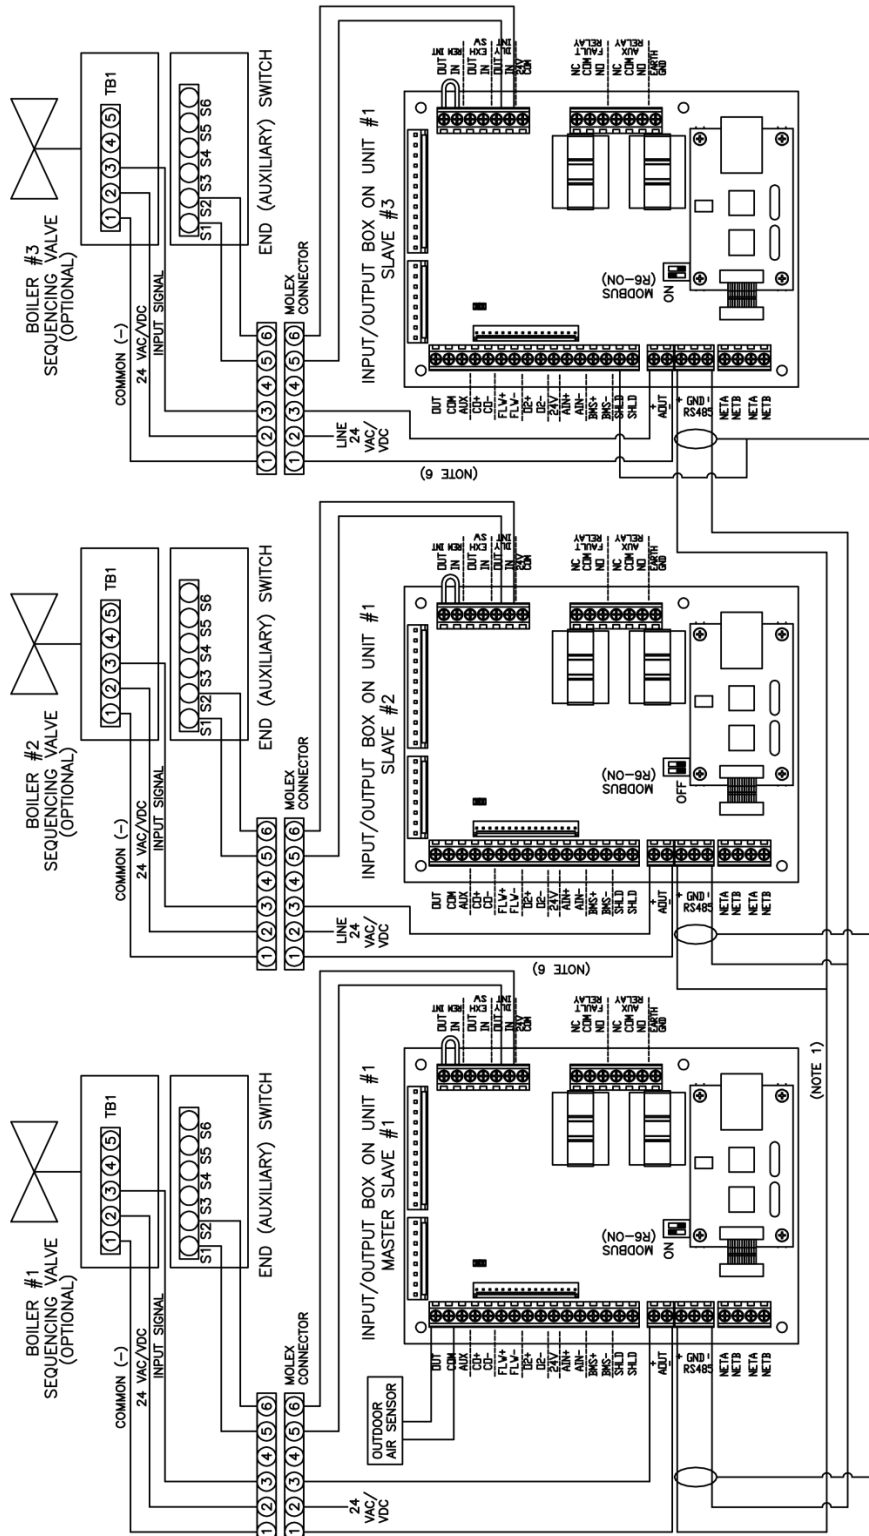

Figure 8-4 WHMS Network Wiring Diagram
1. Starting at the first unit, connect the twisted, shielded pair cable to the RS485 Comm plus (+) and minus (-) terminals on the left side I/O board as shown in Figure 8-4.
3. Refer to Figure 8-4 and run the shielded cable to the next unit in the daisy-chain and connect the + and – wire leads (+ to +, - to -). DO NOT terminate the shield of the RS485 Comm leads to the SHIELD terminal at the Slave. Instead, connect the shields of the incoming and outgoing RS485 leads together.